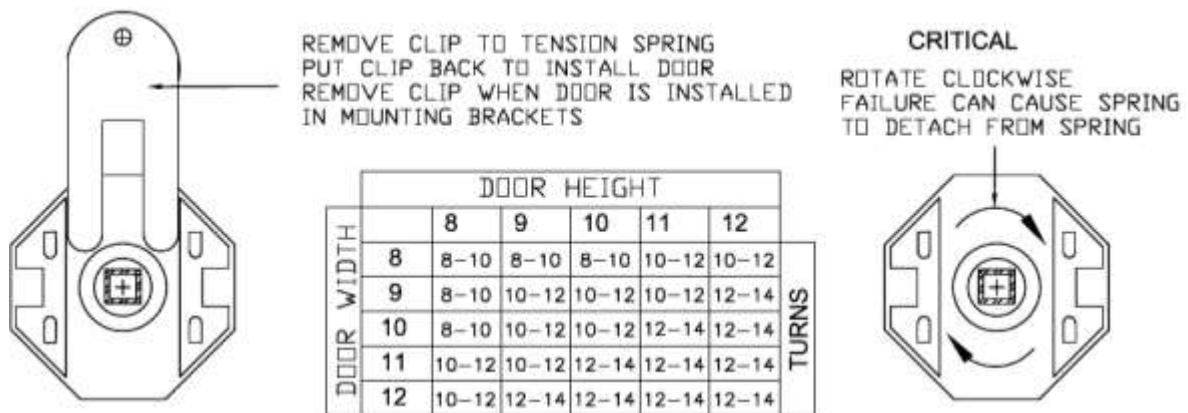

FIGURE 5
- 10. Remove the flat retaining clip from the end of the spring. Using a crescent wrench, wind the square shaft on the spring end of the roll tube as shown in **Figure 5**.